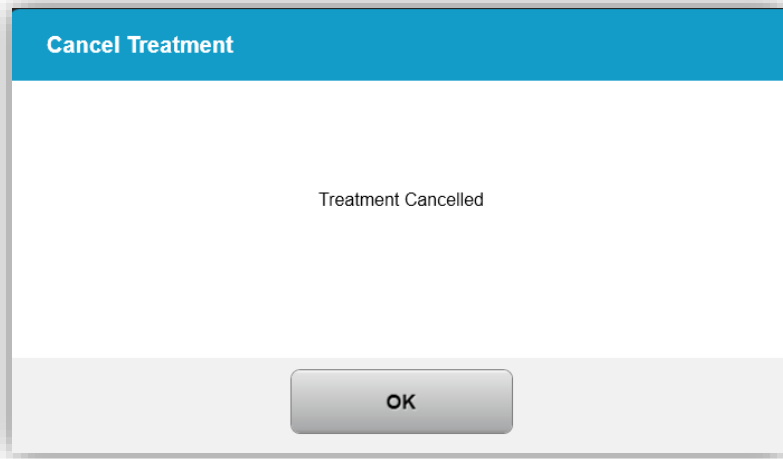

Figure 3-30. Treatment Cancelled Confirmation
- If treatment cancellation was confirmed, an onscreen “Treatment Cancelled” message will appear as shown in Figure 3-30.